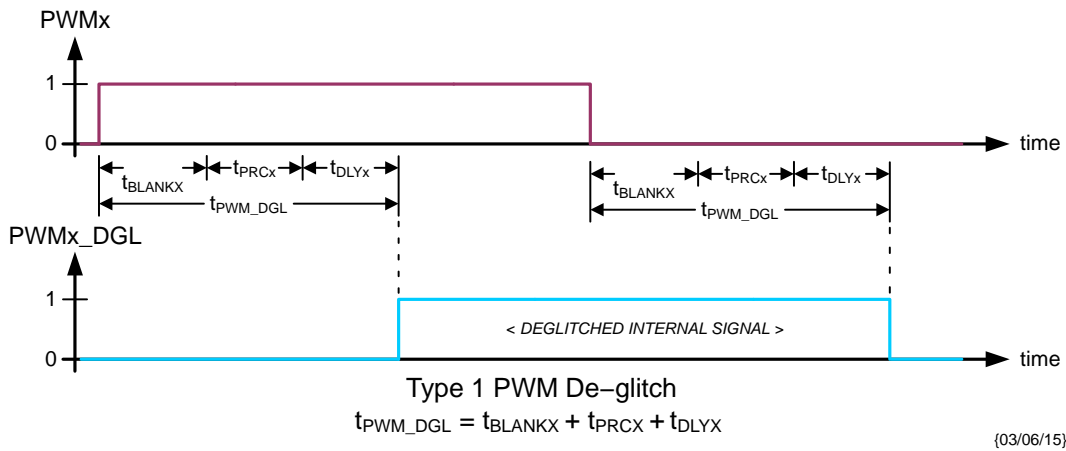
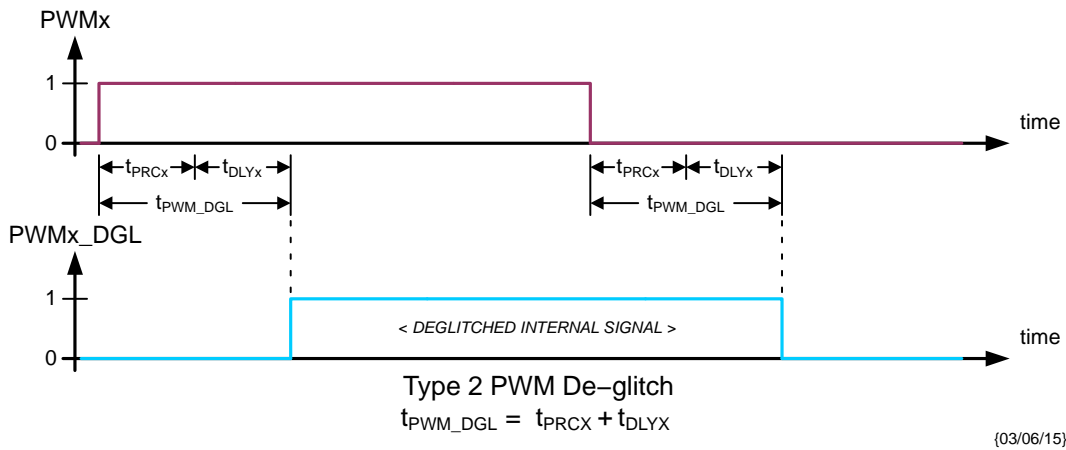
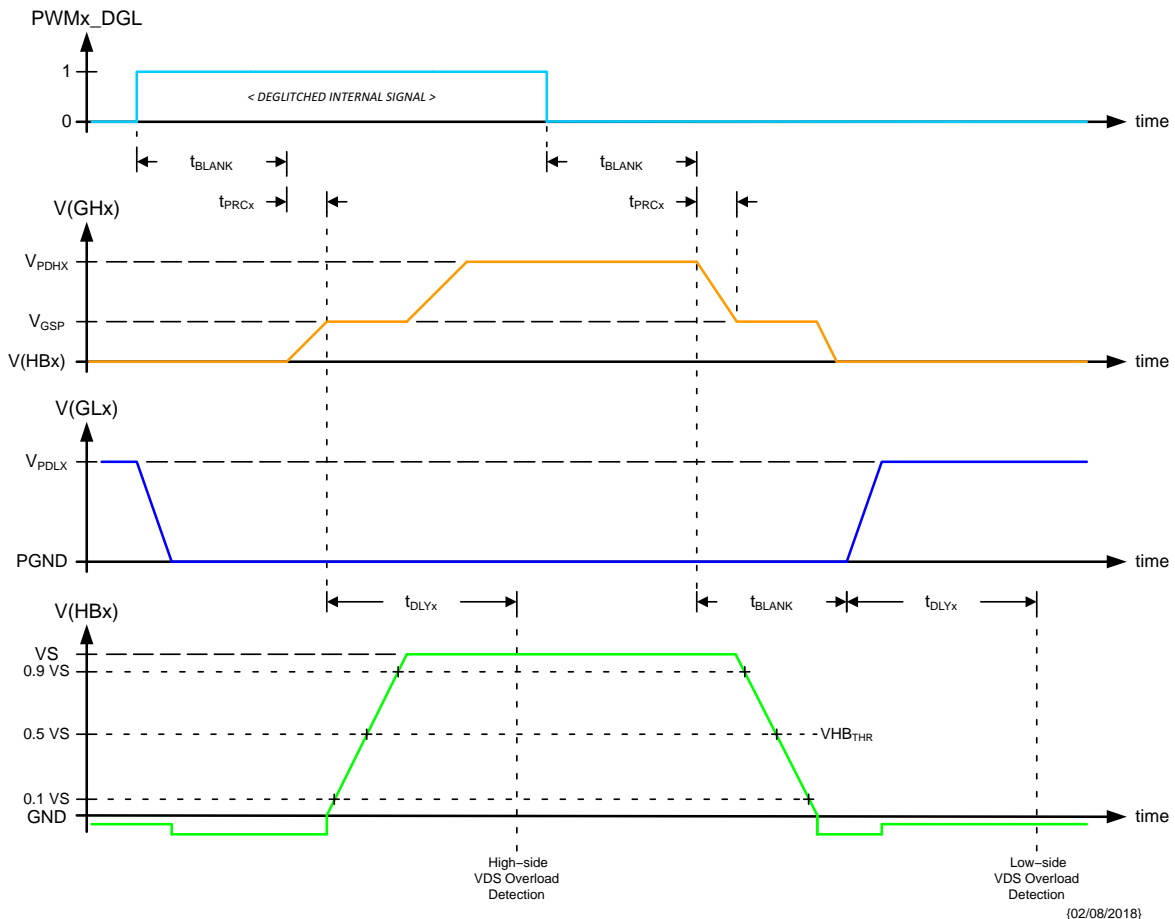

Figure 10. Type 1 PWMx Input De-glitch – CR14.DGLx = 0
Figure 11. Type 2 PWMx Input De-glitch – CR14.DGLx = 1
Figure 12. HBx Output Switching in Half-Bridge Configuration
When multiple PWM_x inputs are needed to be active, the scheduled PWM signals should be offset in time to avoid degradation of the VDS overload detection due to crosstalk (see § *Overload Protection*). The minimum offset should be based on the t_{PWM_DGL} times appropriate for the respective channels (see § *Switching Behavior of Half-bridge Drivers*, Figure 10 and Figure 11).
- adaptive PWM input de-glitch construction when in half-bridge configuration is selected by DGLx[6:0] bits (see Figure 10, Figure 11, Table 21 and Table 22).
In order to not overload the charge pump circuit in case of loss of VS or in case of a disconnected security switch, the steady state output current of the high-side gate drivers is limited to I_{GHX_SS} after t_{TIMEOUT} (see I(GHx) in Figure 12 and § *Electrical Characteristics: Half-Bridge Pre-Driver Outputs*).
When operating in PWM mode, type 1 de-glitch is selected when CR14.DGLx = 0 (see Figure 10) and the adapted time is given by:
Type 2 de-glitch is selected when CR14.DGLx = 1 (see Figure 11) and the adapted time is given by:
When operating in PWM mode, the timing of the gate drivers is according to Figure 12.
- the PWM_x_DGL resulting from the channel's operating configuration (see § *Switching Behavior of Half-bridge Drivers*, Figure 10 and Figure 11);
The appropriate latch is set (after the adapted t_{PWM_DGL} – see Figure 10 and Figure 11) at the start of the switch activation (see V(HBx) in Figure 12). In the case of the high-side MOS, the delay time t_{DLYX} is started at the end of the pre-charge time (t_{PRCX}). In the case of the low-side MOS, the delay time t_{DLYX} is started concurrent with the GLx turn-on current (see I(GLx) in Figure 11). At the end of time t_{DLYX} the switching node voltage is compared with the appropriate VDS_{THR_R} or VDS_{THR_F} overload detection threshold (see § *Electrical Characteristics: Half-Bridge Diagnostics*).